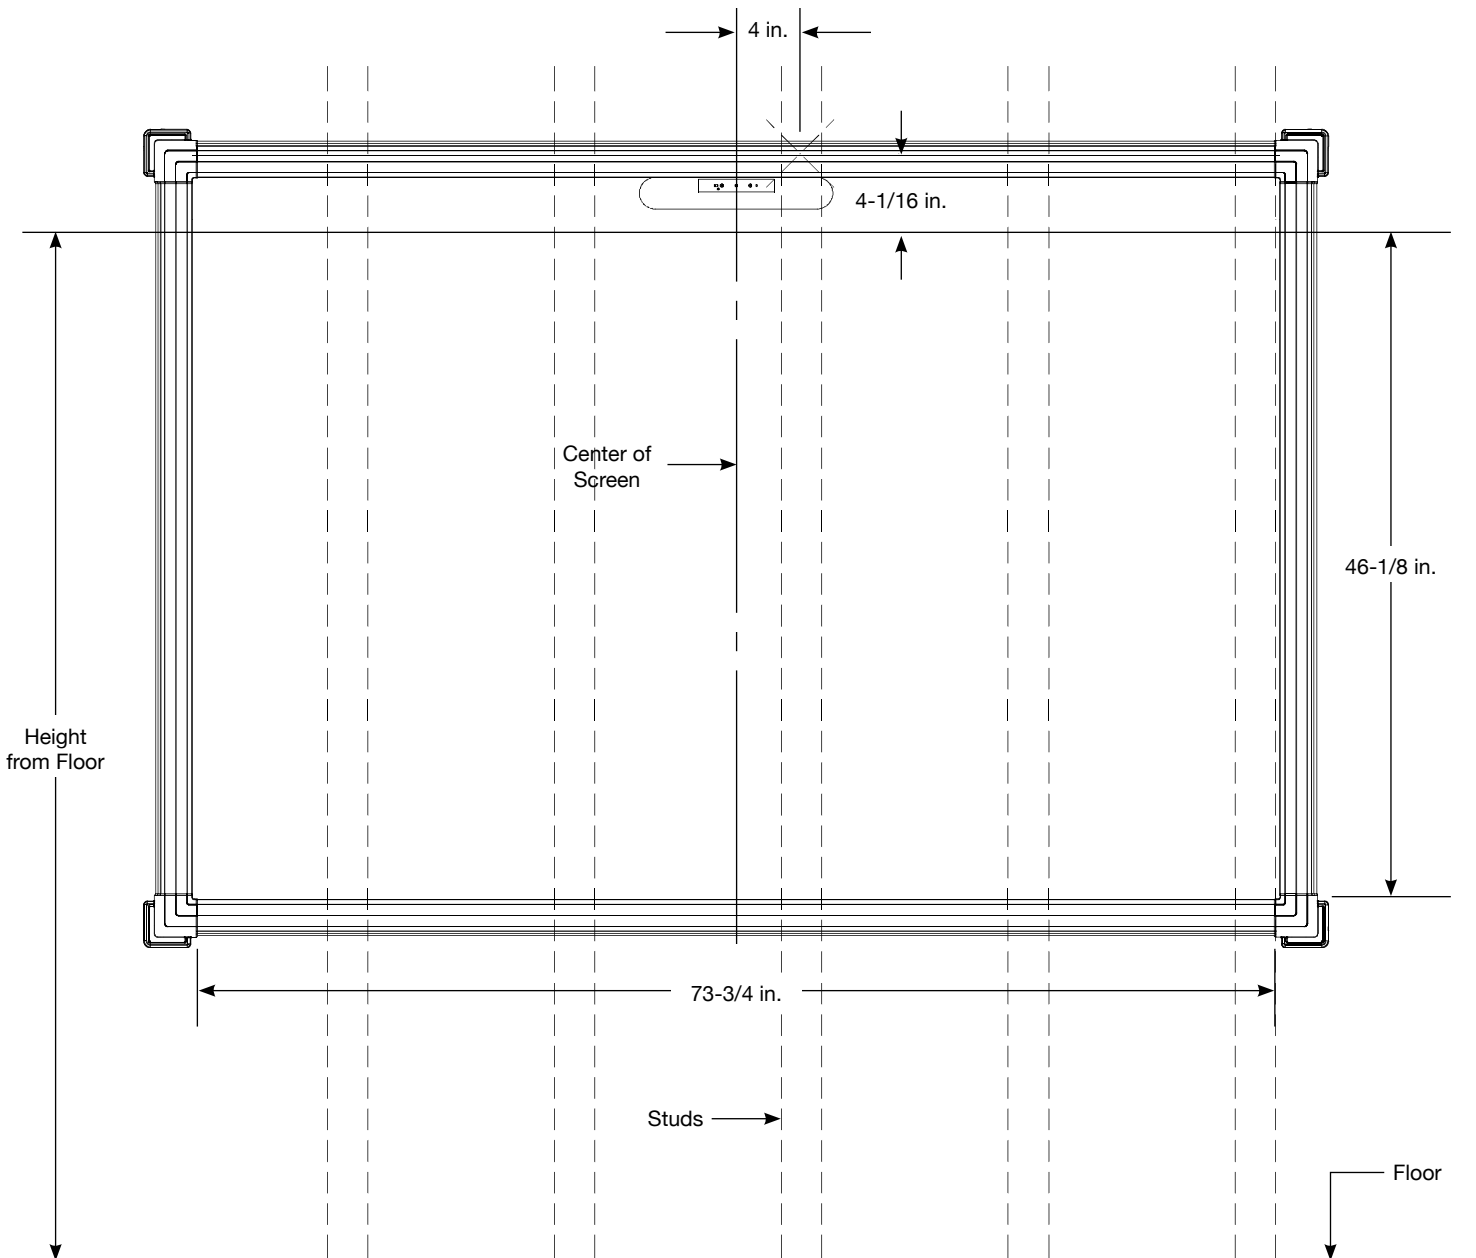

Figure 1
1. Determine desired height of image (measured from floor) (Figure 1).
2. Determine desired center of image area (Figure 1).
3. Measure 4-1/16" up from desired height (top) of image and 4" to the right of center of screen and mark location (Figure 1).
5. Drill one pilot hole into a wall stud at location marked in Step 3 (Figure 1).